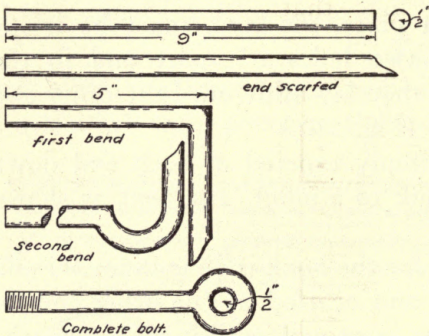

FIG. 211.-- BOLT FOR PLANK DRAG.
1. For the eye bolt in the plank drag you will need 9'' of $\frac{1}{2}$ '' round iron. (Fig. 211.)